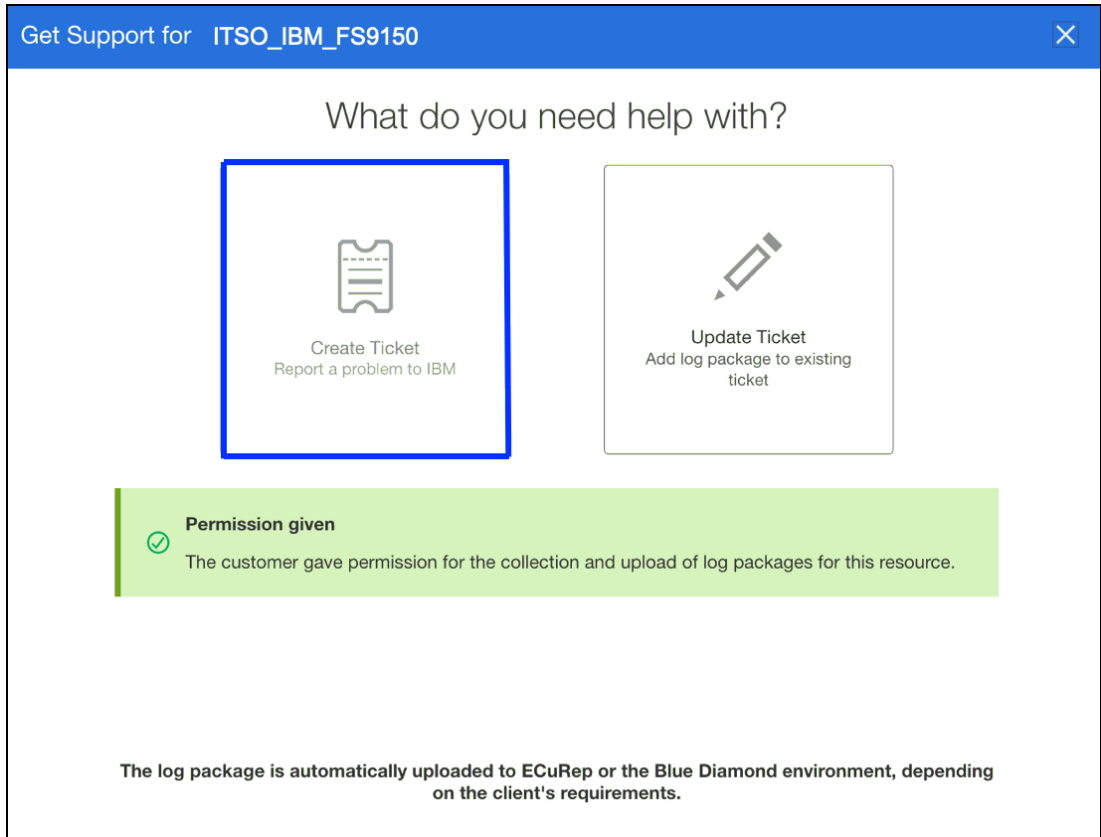

Figure 11-13 Create ticket
6. Figure 11-13 on page 514 shows you the panel where you can either create a new ticket or update a previously created one.
**Note:** The *Permission given* information box, shown in Figure 11-13, is an option the customer needs to enable on in the IBM FlashSystem GUI. See the 11.4, "Remote Support Assistance" on page 506 to enable this function.